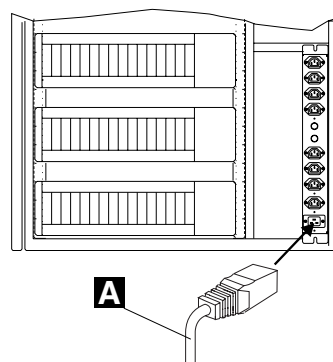

Figure 31. Power Cord for Power Strip
- 26. If it is not already plugged, connect the main power cord **A** coming from the ac outlet distribution box to the customer receptacle (refer to Figure 31).